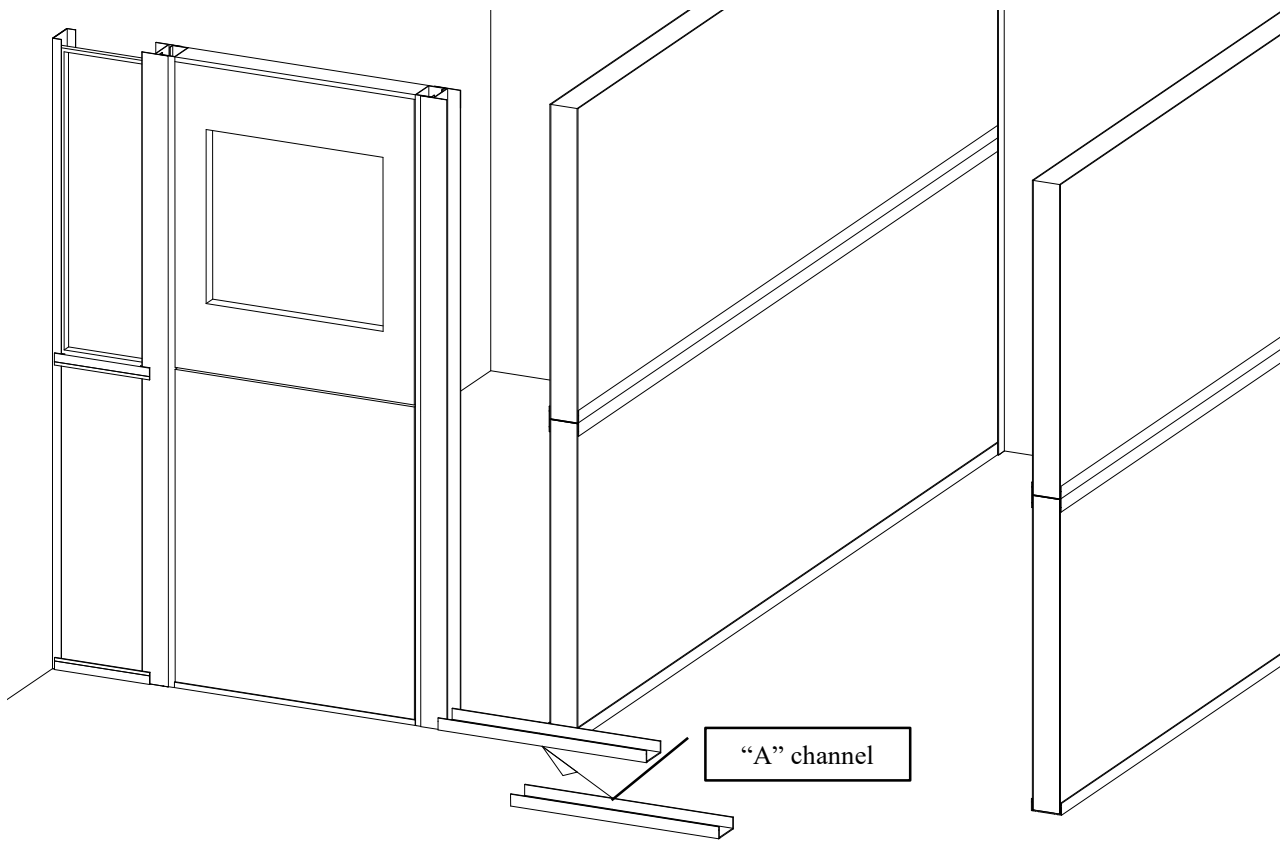

Figure 27
12. Place the next “A” channel onto the floor and slide into position on the previously installed “D” channel. See figure 27.